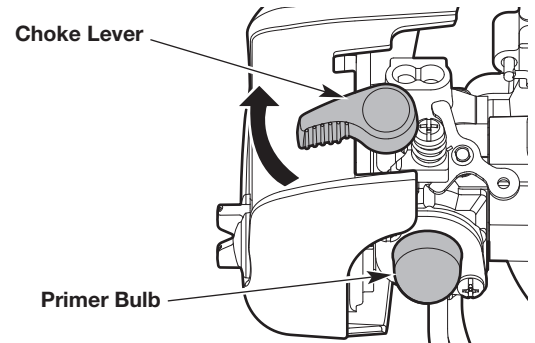

Fig. 6
1. Slowly press and release the primer bulb **10 times** (Fig. 6).
2. Flip the choke lever clockwise until it clicks (Fig. 6).